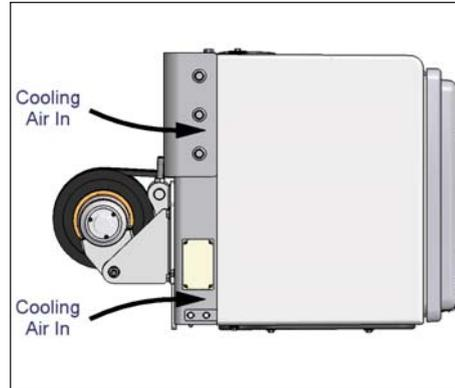

Figure 10a - Cool Air In
- The cooling air enters the package from the rear of the unit as shown in Figure 10a.